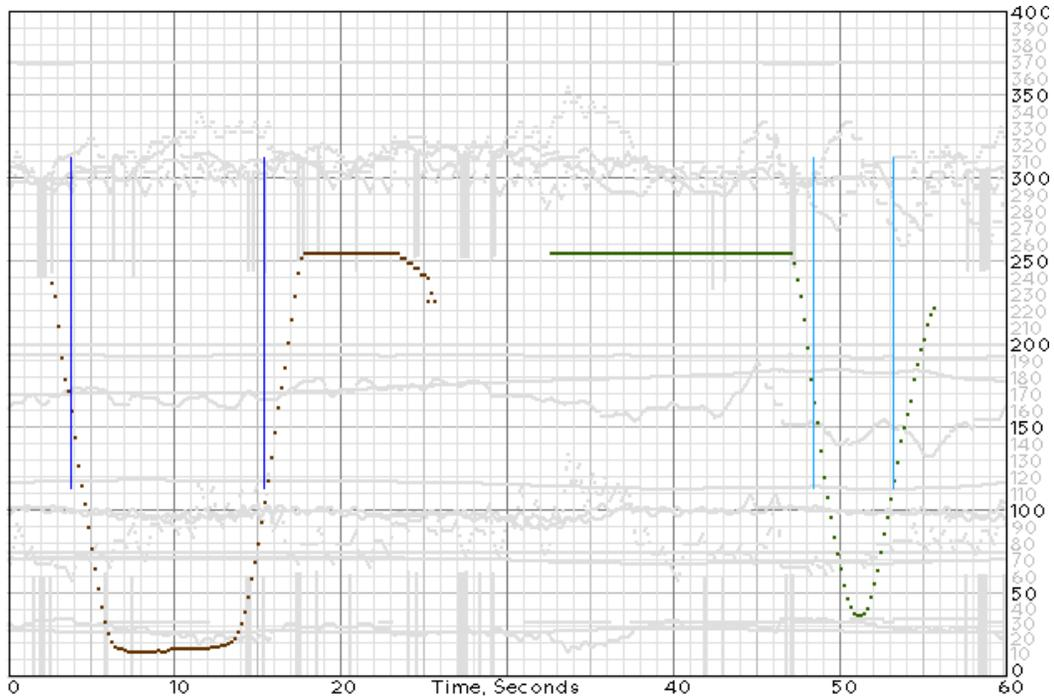
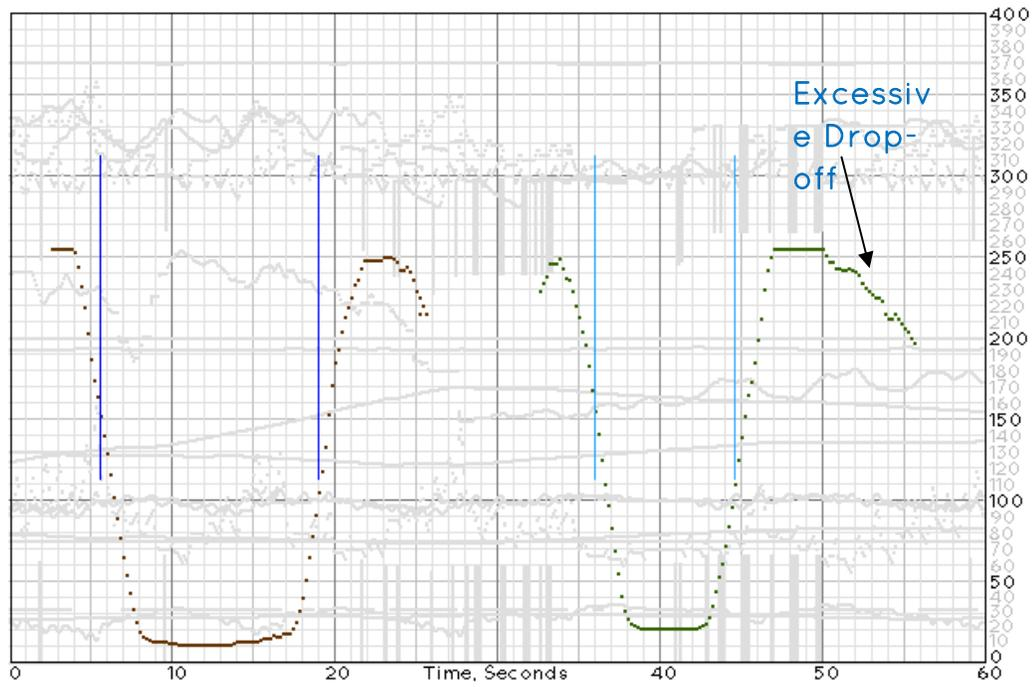
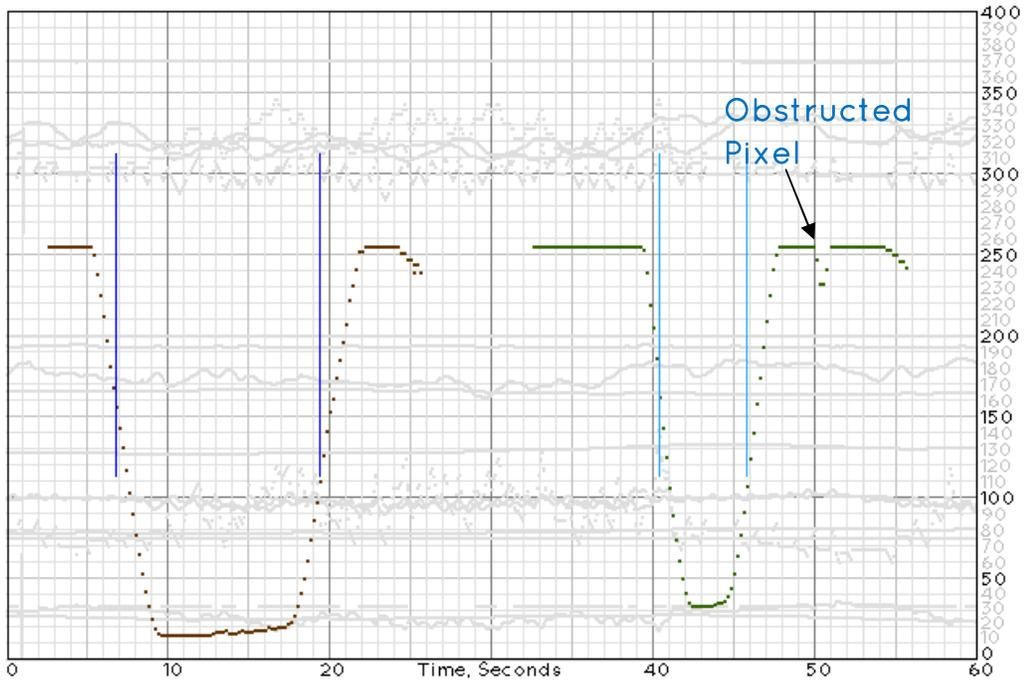

Figure 3.4 Misaligned Sensors
Figure 3.5 Misaligned LED
Figure 3.6 Dirty/Obstructed Pixels
1. Filament shadow is not in the center of the sensor (Figure 3.4)
- Doing this may cause excessive light drop-off, and so you may have to iterate with (2) until sensor and LED are properly aligned.
2. Excessive light drop-off at side of sensor (Figure 3.5)
- Changing the LED position changes the angle of the light, and this may affect sensor alignment, and so you may have to iterate with (1).
3. Blocked or obstructed sensor pixels (Figure 3.6)